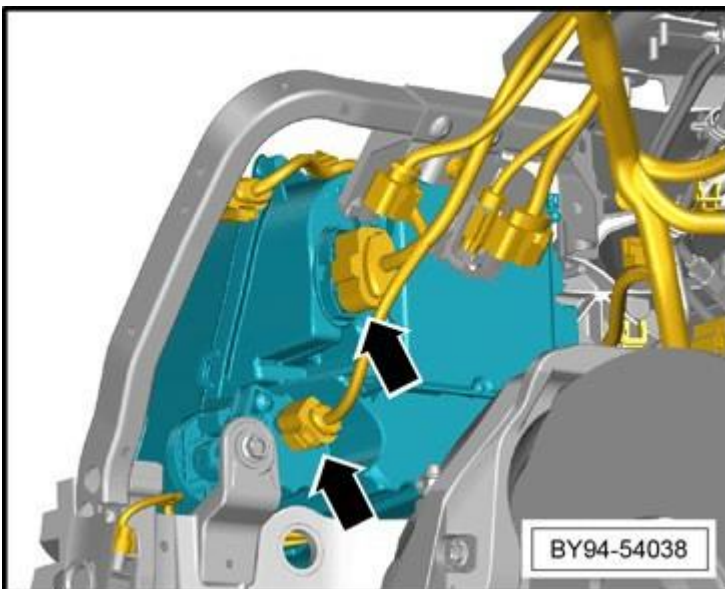

Figure 1
2) Referring to the examples shown in Figures 1 and 2